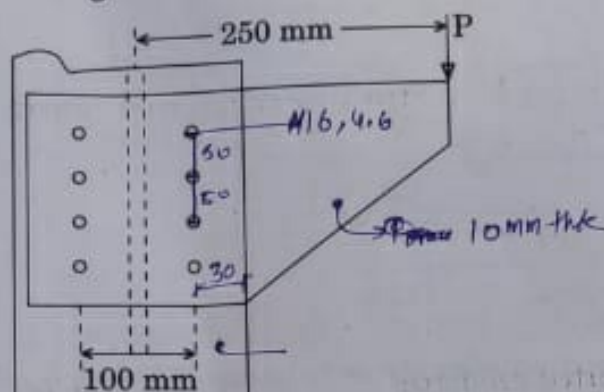

Figure 8
- (b) A bracket plate is connected to a flange of ISMB 500 as shown in Figure 8. Find the safe load P carried by the joint. M 16 bolts of grade 4.6 are provided at a pitch of 50 mm and end distance 30 mm. 20